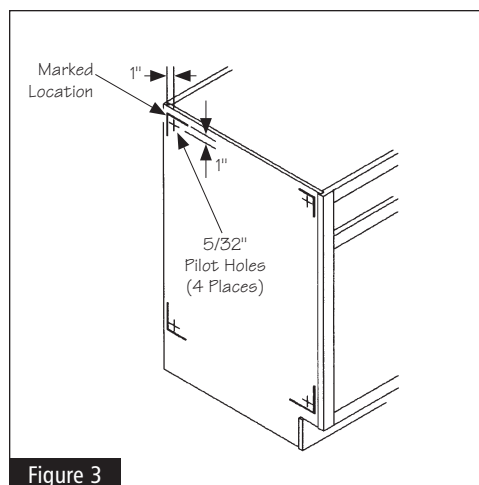

Figure 3
**3** Remove the door and measure one inch in from the corners that were marked on the side panel in Step 2. Using a 5/32" diameter drill bit, drill pilot holes through the side panel of the cabinet at the marked locations. See Figure 3.